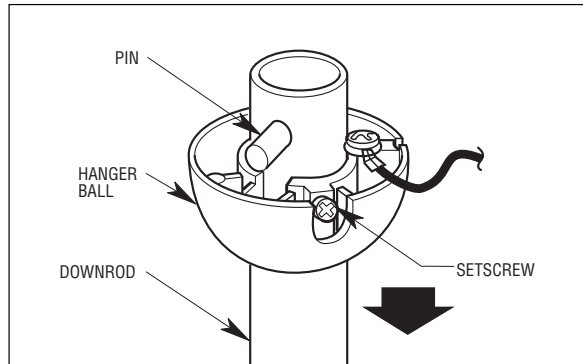

Figure 3
2. Remove the hanger ball by loosening the setscrew in the hanger ball until the ball falls freely down the downrod (Figure 3). Remove the pin from the downrod, then remove the hanger ball. Retain the pin and hanger ball for reinstallation in Step 12.